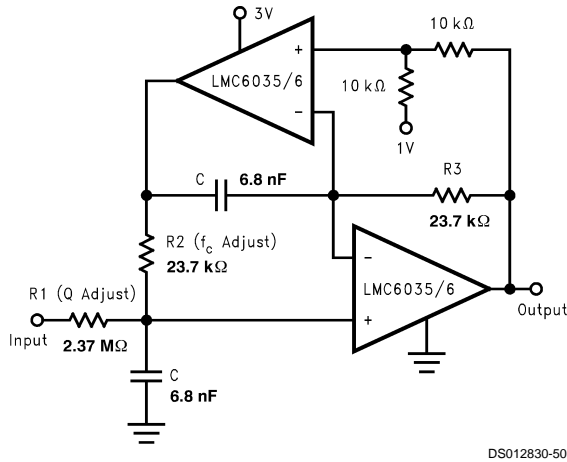

FIGURE 7. 2 Pole, 1 kHz Active, Bandpass Filter
The dual amplifier bandpass (DABP) filter features the ability to independently adjust f_c and Q . In most other bandpass topologies, the f_c and Q adjustments interact with each other. The DABP filter also offers both low sensitivity to component values and high Q s. The following application of Figure 7, provides a 1 kHz center frequency and a Q of 100.
1. First choose a center frequency (f_c). Figure 7 represents component values that were obtained from the following computation for a center frequency of 1 kHz.